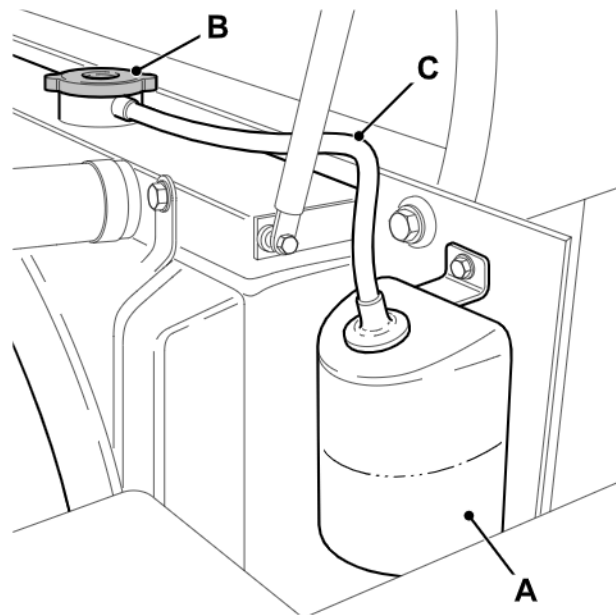

Fig 101.
- 2 Carefully loosen cap **A** on the coolant reservoir, ⇒ Fig 101. \(□ 136\). Let any pressure escape before removing the cap.